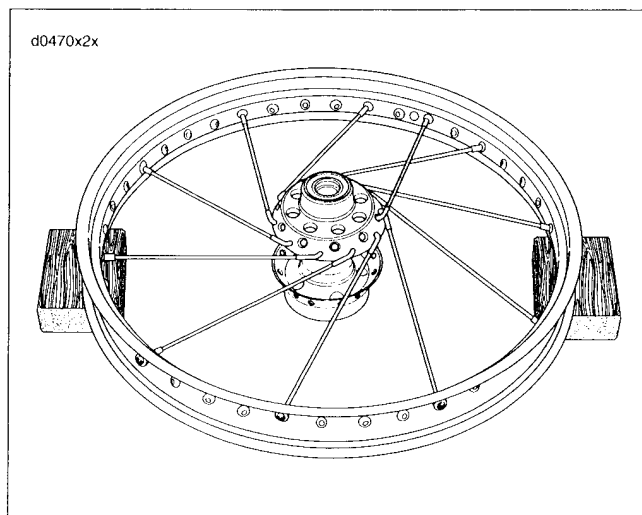

Figure 2-45.
5. See Figure 2-45. Place the first **upper** row spoke into the hub as shown below. Angle the spoke counterclockwise crossing four lower row spokes. The spoke must enter the hole to the right of the valve stem hole.